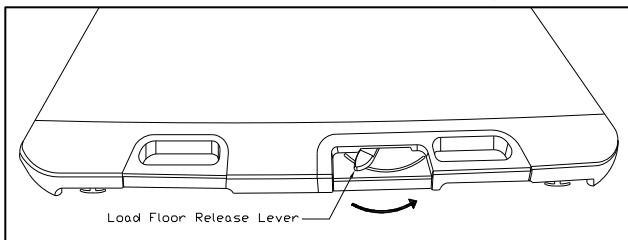

Fig. 1-1
- (a) Open vehicle rear cargo door and locate slide-out load floor release lever. Move and hold lever all the way to the right and pull tray out to its full extension. (Fig. 1-1)